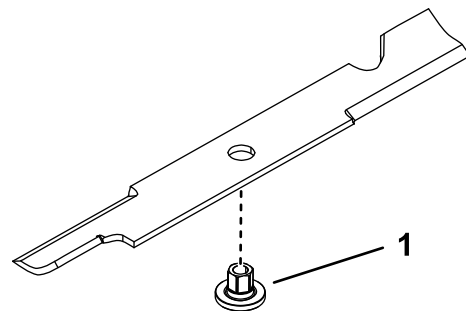

Figure 110
1. Install the bushing through the blade with the bushing flange on the bottom (grass) side of the blade (Figure 110).